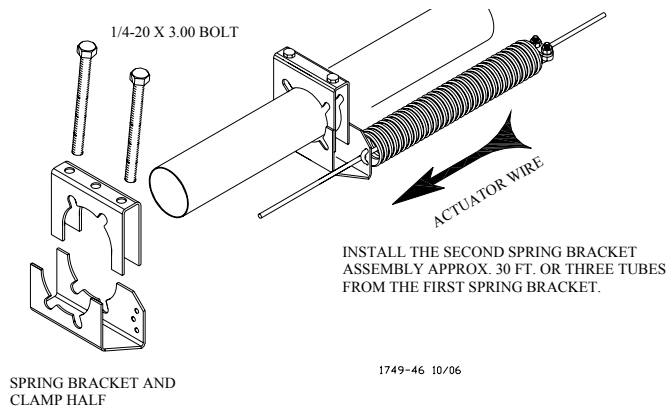
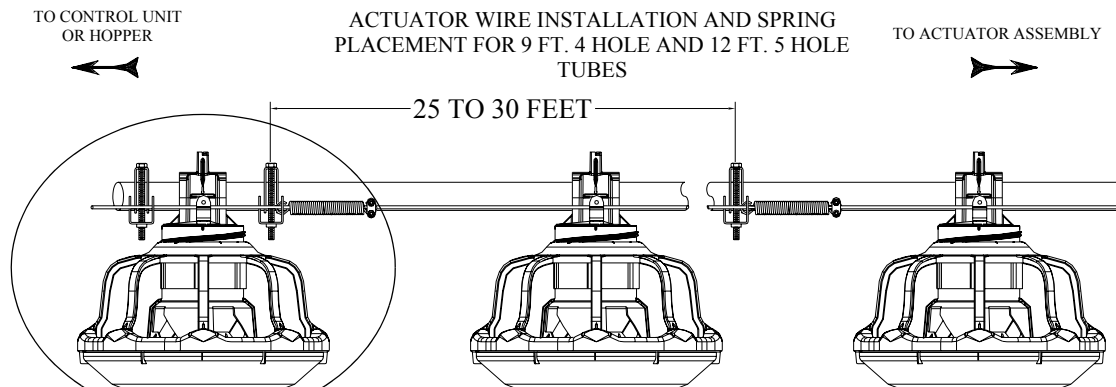

Figure 42. Terminal Spring Bracket
Figure 44. Wire layout for 9 ft. 4 hole and 12 ft. 5 hole
1. Install the terminal spring and bracket (using (2) 1/4-20 x 3 inch hex bolts) at the control unit, **see figure 42 and 45**. If necessary the last pan may need to be setup to push the vari-brood opening, **see figure 44**.
3. Brackets will be installed using (2) 1/4-20 x 3 inch hex bolts.
1. Beginning at the terminal spring bracket or if a pusher pan is used start at that spring bracket. Slide the end of the actuator wire through the two holes in the bracket and through the center of the end spring, **see figure 44**